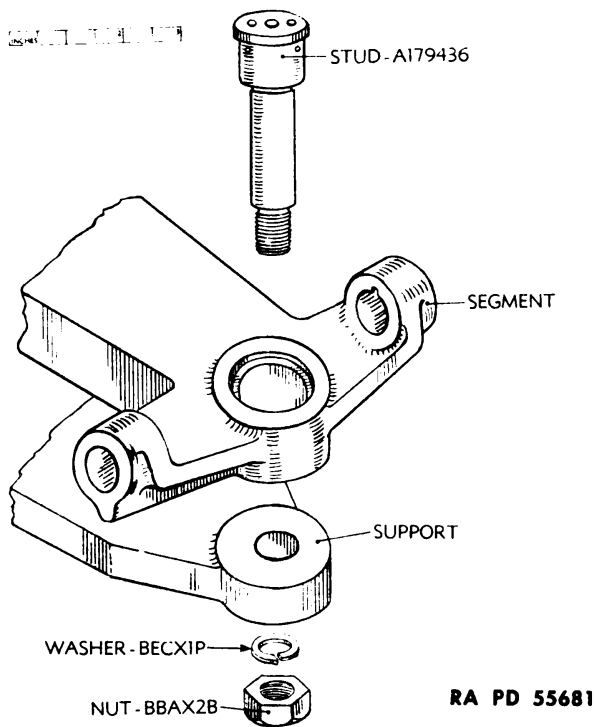

Figure 25—Gear Segment and Support—Assembly at Front End—Exploded View
a. **Front Bearing Removal.** Having removed the cradle (as described in par. 31) remove nut BBAX2B and washer BECX1P from lower end of front stud A179436 (fig. 25), and lift out the stud.